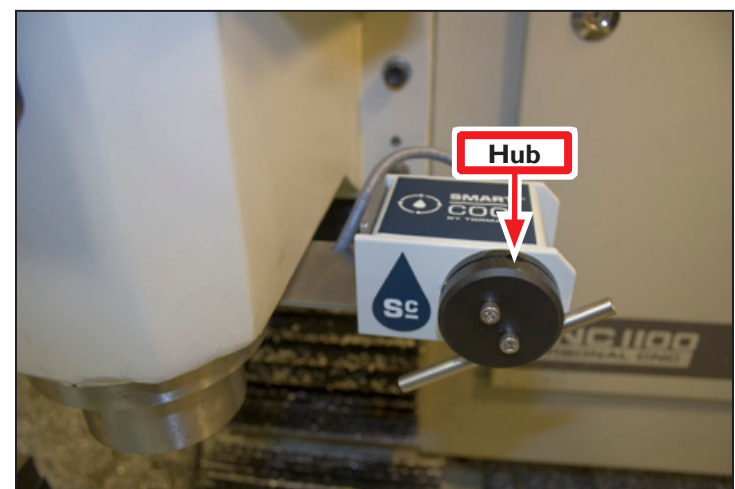

Figure 19
1. Identify Hub on SmartCool Head Unit (see **Figure 19**).